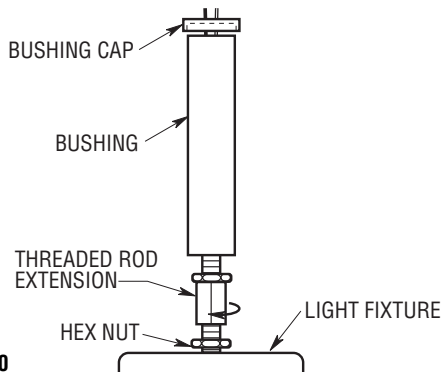

Figure 10
1. Feed the light fixture wires through the hex nut and then the threaded rod extension as shown in Figure 10. Secure the rod extension into the top of the light fixture by turning the rod clockwise, while holding the bottom hex nut with a wrench to secure.
2. Carefully slide the bushing over the threaded rod extension and then the bushing cap (Figure 10). Be sure the bushing cap is positioned downward.